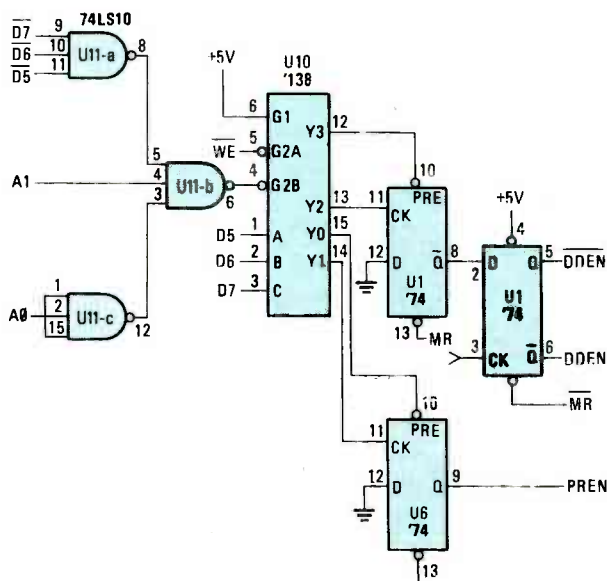

FIG. 1—SCHEMATIC DIAGRAM of the Radio Shack double-density adapter enable circuitry.
A comparison of the schematics showed me that the same double density disk controller chip was used on both adapter boards. The only differences between the two were the method of addressing the bit which selected single or double density and the method of enabling write precompensation. On the Radio Shack version, density selection is done by using the upper three (3) bits of data written to the sector write register at address 37EEH (A1 is high and A0 is low). See figure 1 for the schematic of the circuit. A normal write to the sector-write register will contain zeroes in data bits D5-D7 (there are no sectors greater than 31). This inhibits the density select decoder (U10) by placing a logic